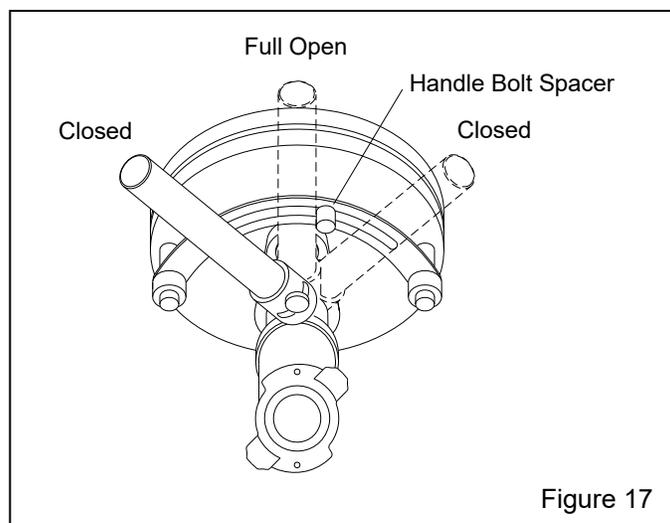

Figure 17
5.2 Media Metering (media flow) – Figure 17
These instructions and the illustration in Figure 17 are for a standard cabinet with FSV Metering Valve. Optional metering valves may function differently, but the process is similar. Refer to the metering valve owner's manual for the operation of the optional valve provided.
5.2.1 Adjust media flow using the metering valve located at the bottom of the blast machine. Begin adjustments with the media valve closed; the valve is closed when the handle is fully turned to either side of center, as shown in Figure 17. To adjust, press the foot pedal and have someone increase media flow by turning the handle slowly toward center, no more than 1/4" at a time. Allow time for the flow to stabilize before readjusting. Optimum flow depends on the type and size of media and blasting pressure, and can best be determined by experience. Use as little media as possible to do the job while maintaining the best cleaning rate. Generally, with the correct mixture, media can be seen as light discoloration as it exits the nozzle.